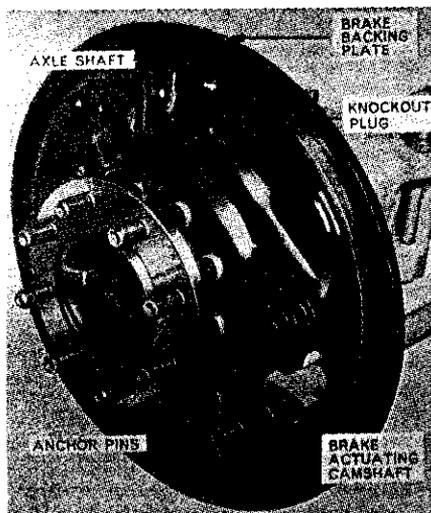

Fig. 318—View showing knockout plug in brake backing plate that can be removed to facilitate wheel bolt renewal. Replace with rubber plug.
**293. RENEW WHEEL DISC BOLTS.** To renew a broken or damaged wheel bolt, remove wheel and brake drum from axle and refer to Fig. 318; a knockout plug is provided in brake backing plate so that wheel bolts can be driven out of axle shaft flange without disassembly of axle unit. After driving in new bolt(s), seal the opening in brake backing plate with rubber plug (Ford part No. C5NN-2N214-A) which is available for service. Then, reinstall brake drum and rear wheel.